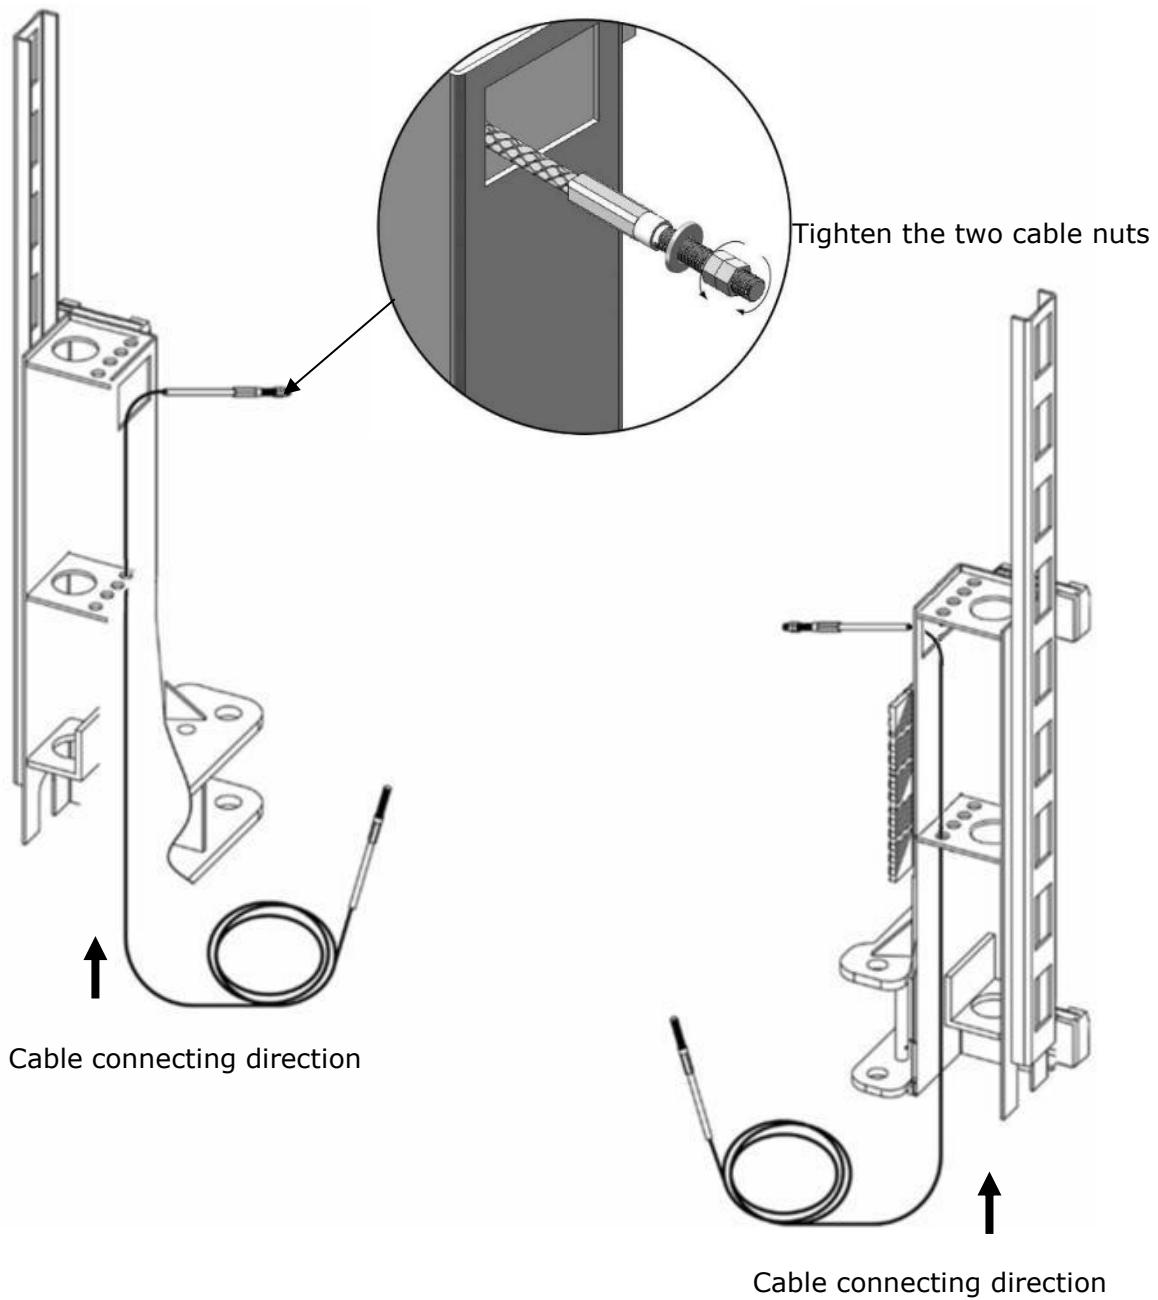

Fig.28
1.1 Remove the carriages plastic cover, sync cable across from the bottom of the carriages and pull it out from the hole of carriage, then tighten two cable nuts. (See Fig. 28)